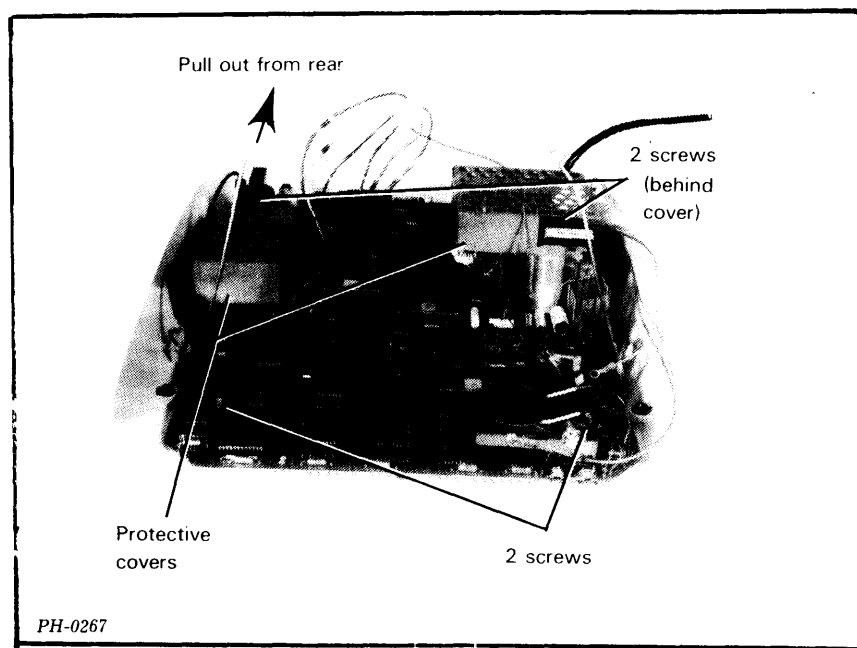

Figure 8.15 Removing the printed circuit board
1. Remove the two cardboard covers at the rear of the board by gently pulling up on each cover (see figure 8.15).
2. Remove the 4 hex screws that secure the circuit board to the bottom of the case (see figure 8.15).
8. Replace the two cardboard covers removed from the original board (see figure 8.15).